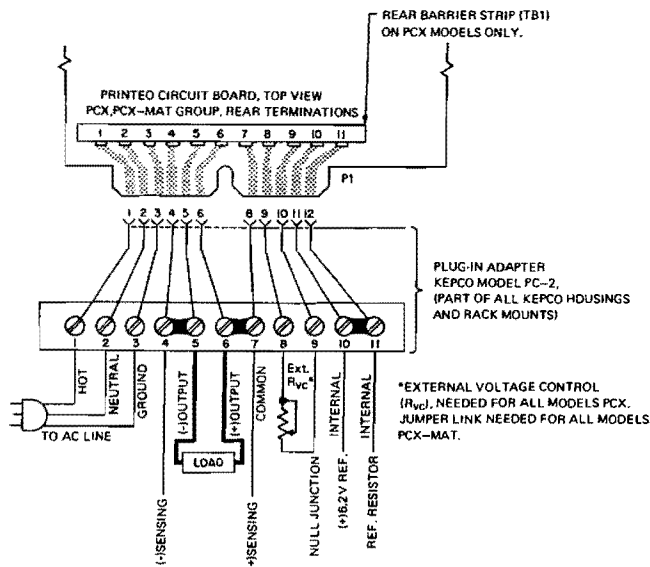

FIG. 3-1 REAR CONNECTIONS FOR STANDARD OPERATION
3-1 STANDARD OPERATION, LOCAL CONTROL (Refer to FIG. 3-1)
- 3-3 The load should be connected as shown (on PCX-MAT models, the load may be connected to the front terminals). Error sensing, as described below (Refer to paragraph 3-5) is recommended to insure specified performance directly at the load. Standard jumper link connections for local control are shown in FIG. 3-1 below. All load connections and jumper links must be tight and secure for proper operation. If the indicated Plug-In Adaptor (PC-2) is not used, the jumper links must be provided on the mating connector to P1. In the case of PCX Models which are equipped with their own miniature barrier strip (TB1), the jumper links on TB1 must be removed, if an adaptor (PC2—part of all cases and rack mounts) is used.
- 3-4 The connecting diagrams shown in the following paragraphs show ONE barrier strip only. This barrier strip represents the rear terminations of the PCX as well as that of the PCX-MAT group. The relationship between barrier strip terminals and pin numbers on P1 may be found by referring to FIG. 3-1. AC line connections (as shown in FIG. 3-1) have been omitted in order to simplify the presentation.